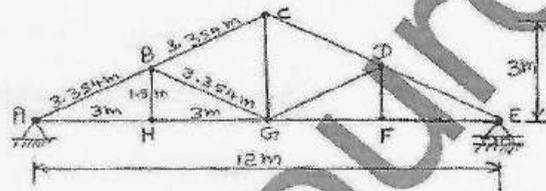

Fig Q4
4. Design a bolted steel Howe truss having an effective span of 12.00m. The geometry of the truss is as shown in Fig.Q4. The forces induced in the members due to dead load, live load and wind load is tabulated in Table.Q4. Determine the design forces in the members due to various combination of loads as per IS - 800 provisions and hence design principal rafter, principal tie and main sling member with all the necessary safety checks including the reversal of stresses. Also design support joint 'A' by considering the size of supporting reinforced cement concrete column as 300 × 300mm, the design bearing pressure on the concrete is limited to 2N/mm² and the design bond stress between anchor bolt and concrete is limited to 1.2N/mm². Use M16 ordinary black bolts of grade 4.6 for designing member and connection with gusset plate and M25 bolt as anchor bolt at support. List the design details.